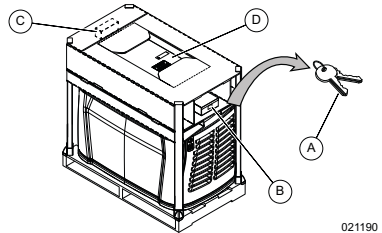

Figure 2-1. Crated Generator With Keys
2. See Figure 2-1. Secure key (A) attached to cardboard above generator. Remove packaging supports.